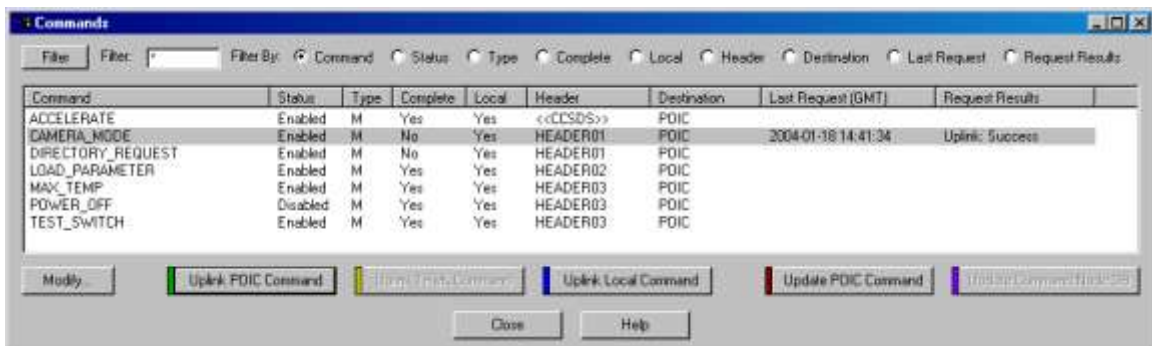

Figure 28 Results of Command Uplink Request
2. In the **Commands** dialog you will see the list of all the commands you are authorized to send. Select the **CAMERA_MODE** command and push the **Uplink POIC Command** button. This will uplink the command (send it to the Command Trainer application). Notice the Last Request and Request Results columns in the Commands dialog as shown in Figure 28. These columns have been updated with information about the results of your command uplink request.